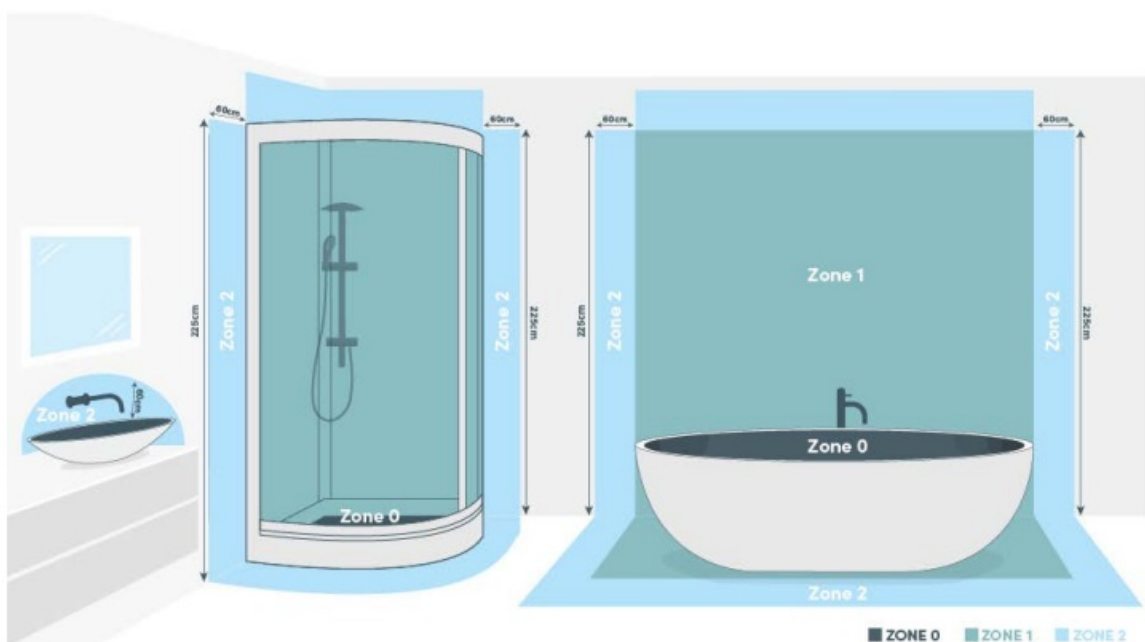

Figure 1 | Bathroom installation zones
- The element can be installed in bathrooms in Zone 2, but never in Zone 0 or Zone 1, as defined by applicable law, subject to any additional regulations concerning electrical installations in wet areas, as shown in Figure 1.